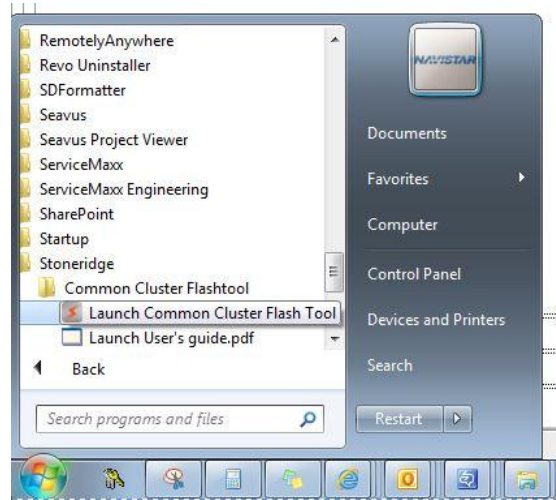
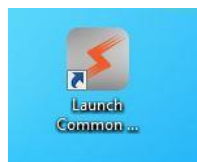

Figure 2. Start menu launcher
Figure 3. desktop shortcut
1. Run the application (See Figure 2), go to Start menu and click on "Stoneridge\Common Cluster Flash Tool\Launch Common Cluster Flash Tool" or double click on the application's shortcut on desktop(Figure 3).
Press the "Select CAN Hardware" button to access this setting (See Figure 3).